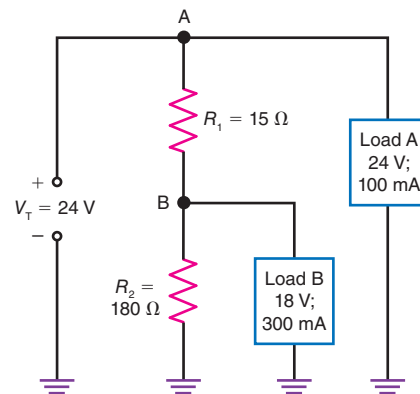

Figure 7-17
QUESTIONS 25–29 Refer to Fig. 7-17.
25. In Fig. 7-17, how much is I_1 in R_1 ?
26. In Fig. 7-17, how much is the bleeder current, I_B ?
27. In Fig. 7-17, how much is the total current, I_T ?
28. In Fig. 7-17, what is the voltage, V_{BG} , if load B becomes open?
29. In Fig. 7-17, what happens to the voltage, V_{BG} , if load A becomes open?